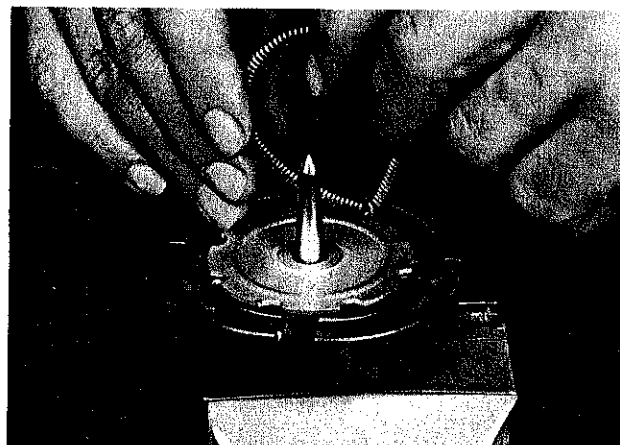

Figure VI-4. Starting assembly of the clutch, the hooked ends of the spring should be started into the clutch groove first.
4. Hook the spring ends together and loop the spring over the shaft, placing the hooked ends in the groove of the closest shoe and starting the spring into the adjacent grooves. (Figure VI-4)